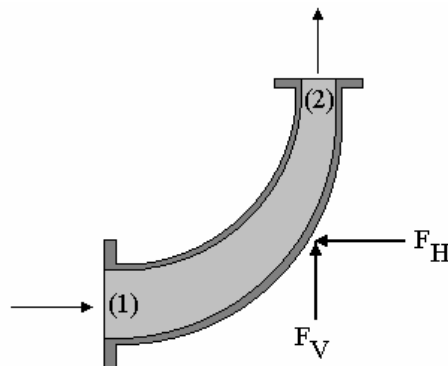

Fig.13
1. A pipe bends through 90° from its initial direction as shown in fig.13. The pipe reduces in diameter such that the velocity at point (2) is 1.5 times the velocity at point (1). The pipe is 200 mm diameter at point (1) and the static pressure is 100 kPa. The volume flow rate is 0.2 m³/s. Assume there is no friction. Calculate the following.
- a) The static pressure at (2).
- b) The velocity at (2).